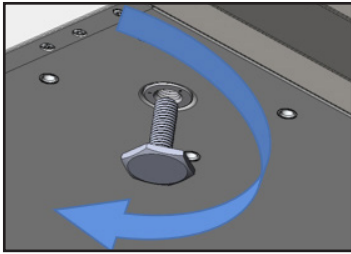

Fig. 1. Turn the leveling legs clockwise to lower the unit.
2. The leveling legs may be threaded in or out to achieve a level and supported cabinet. See fig. 1 and 2.